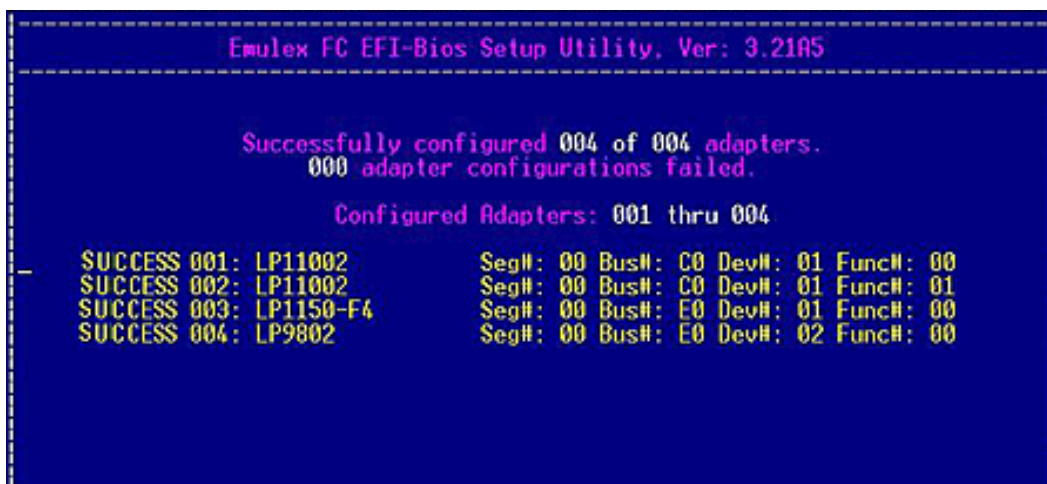

Figure 6-36 Successful Batch Configuration Screen
- Press <P> to configure the selected adapters. If the adapters are configured successfully, a screen similar to Figure 6-36 is displayed.
5. Press **<P>** to configure the selected adapters. If the adapters are configured successfully, the screen shown in Figure 6-36 is displayed.